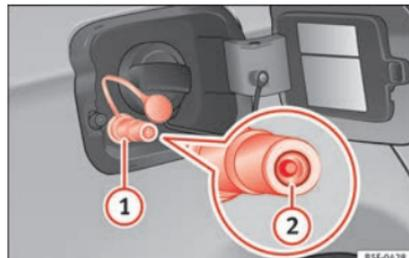

Fig. 246 Tank flap open: gas filler mouth ①, filler mouth retainer ②
- Remove the plug from the gas filler mouth » » » Fig. 246 .